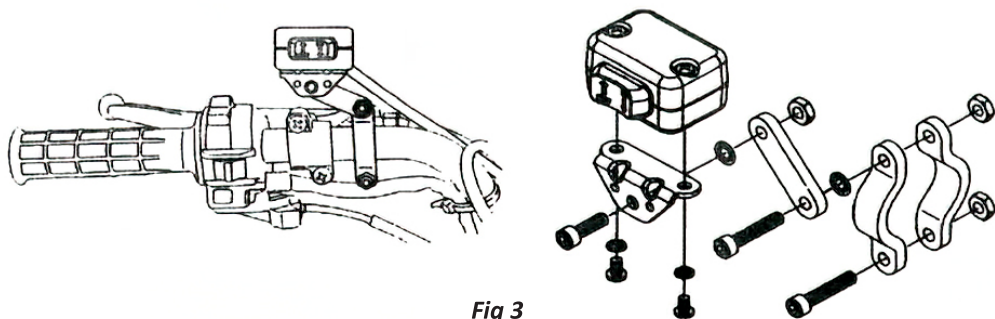

Fig 3
- Attach the handlebar rocker switch to a convenient location (left handlebar is recommended, shown in Fig 3) and connect the two control wires to the corresponding bullet terminals on the end of the short trailing leads from the control box.